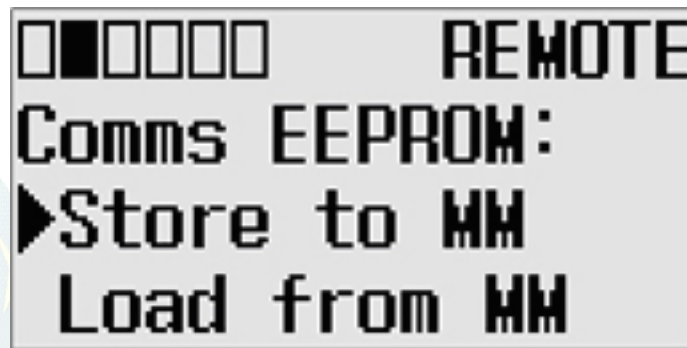

Figure 7 Comms EEPROM Menu Screen
6. Select the “Comms EEPROM” menu option and press the “OK” key. The Comms EEPROM Menu Screen will open (refer to Figure 7 Comms EEPROM Menu Screen).